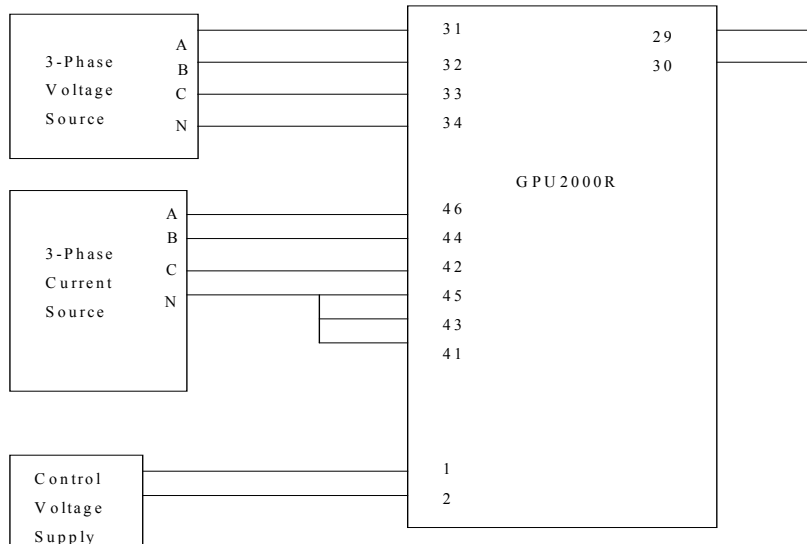

Figure 10-5. Connection for Tests 5, 7, 19, 19A and 19B
Make the connections as shown in Figure 10-5, page 10-19, new for the neutral side current transformers, and the voltage connections as shown on the load side potential transformer. Set the timer to start upon application of current and to stop when the contact monitor senses a closed contact (optional). Apply a balanced voltage of 69.0 volts, and 1.0 amperes balanced current at a phase angle of 45° lagging. Increase the current until the unit produces an output, which should occur at a current level of 1.38 amperes. The “pickup” LED on the relay should light and the contact should indicate a closed contact. The “Overcurrent/Impedance” LED should also light. With time delay setting on the relay, the time for a distance trip should be approximately two (2) cycles plus the time set for delay on the relay. That time must be added to the inherent time delay of two (2) cycles.